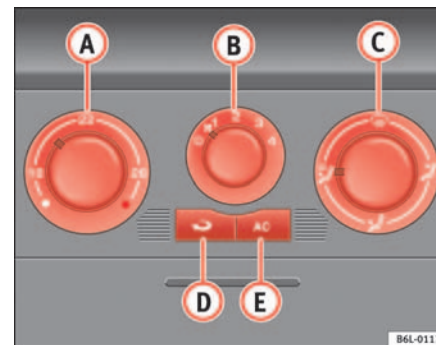

Fig. 89 On the instrument panel: air conditioner controls
- Using the controls ⇒ fig. 89 **A** and **C** and with the switch **B** you can set the temperature, air distribution and the blower speed.
- Close outlets ③.
- Open and turn outlets ④ towards side windows.